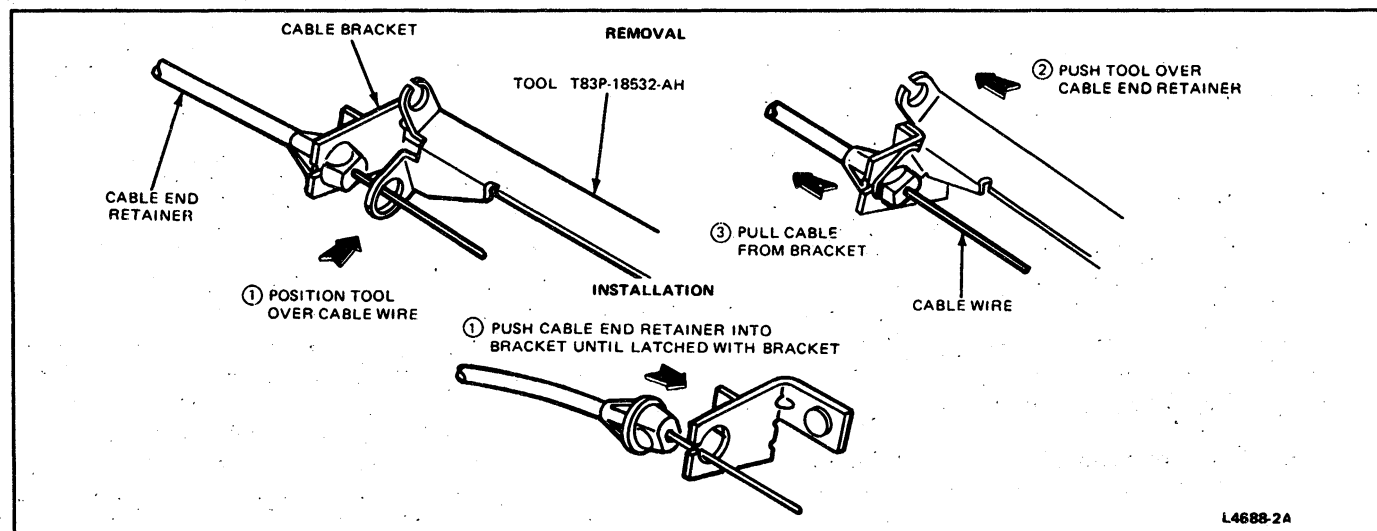

FIG. 6 Temperature Control Cable Removal and Installation
7. Remove temperature control cable from control assembly. Disconnect bullet-type cable retainer from bracket using Control Cable Removal Tool T83P-18532-AH or equivalent (Fig. 6), or needlenose pliers to compress retaining ears. The cable "S" bend is removed from bottom side of the lever by rotating the cable wire 90 degrees to the lever.
1. Connect temperature control cable to control assembly (Fig. 6).